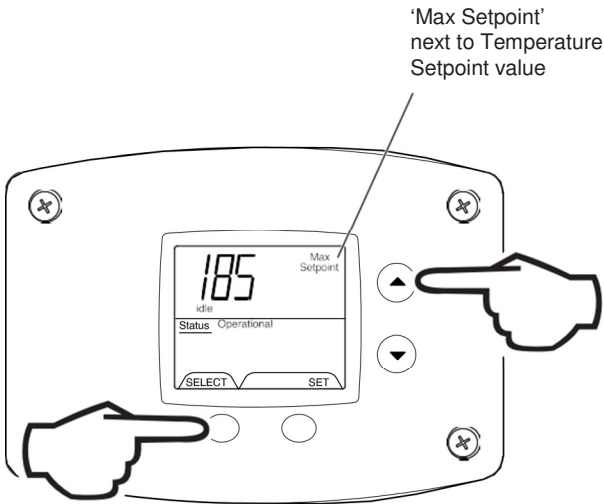

Fig. 29
1. Press 'Select' and 'Temperature Up' buttons together and hold for 3 seconds until 'Max Setpoint' is shown in the display (Fig. 29).